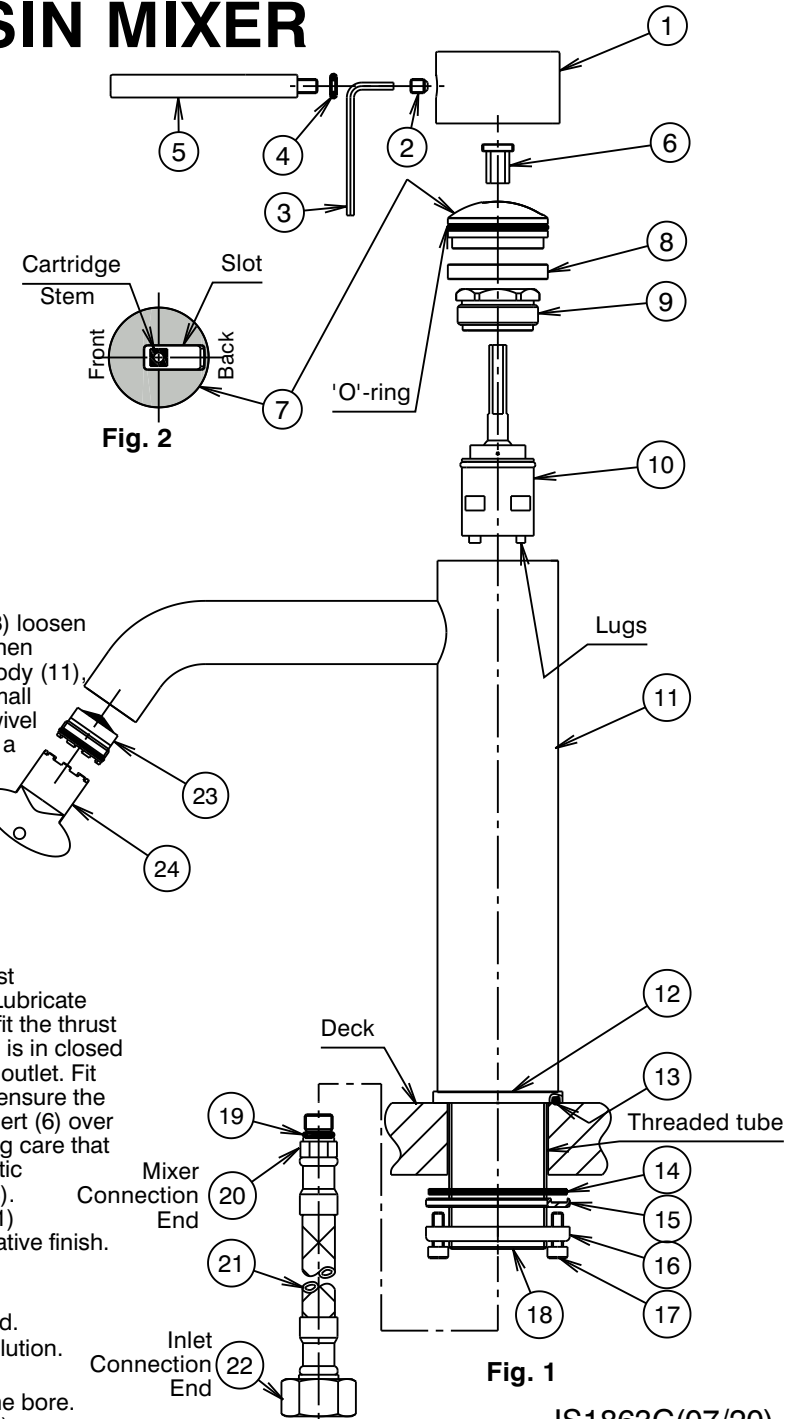

Fig. 1
- 1) From fixing pack fit 'O'ring (13) into groove in base ring (12). Slide the base ring over the threaded tube (18) & locate spigot of base ring (12) into base of mixer body (11), as shown.
- 2) **Flexible Tail Mixer Connections:** Apply suitable lubricant to 'O'rings (19). Fit flexible tail (21) (with red indication) into inlet hole marked with a Red Dot in underside of mixer body (11). Hand tighten the tail, ensuring the 'O'ring (19) has fully entered the sealing bore to provide a watertight joint. Fit other flexible tail (with blue indication) into remaining hole in a similar manner.
- 3) Insert the inlet connection end (20) of each flexible tail (21) through the hole in the deck. Fit mixer (11) into deck hole, fit washer (15) together with flat seal (14) over threaded tail of mixer as shown (Fig.1). Screw clamp ring (16) onto threaded tube until it contacts washer (15) & the flat seal (14) has contacted the underside of the deck. Tighten two screws (17) using a 3mm allen key until mixer assembly is clamped firmly to the deck. DO NOT OVERTIGHTEN.
- 4) **Flexible Tail Inlet Connections:** Connect the flexible tails (21) to the hot and cold isolating stop taps, hand tighten the fixing nut (22) until rubber cone contacts the sealing face of the connection end, then tighten a further one turn to provide a watertight joint.